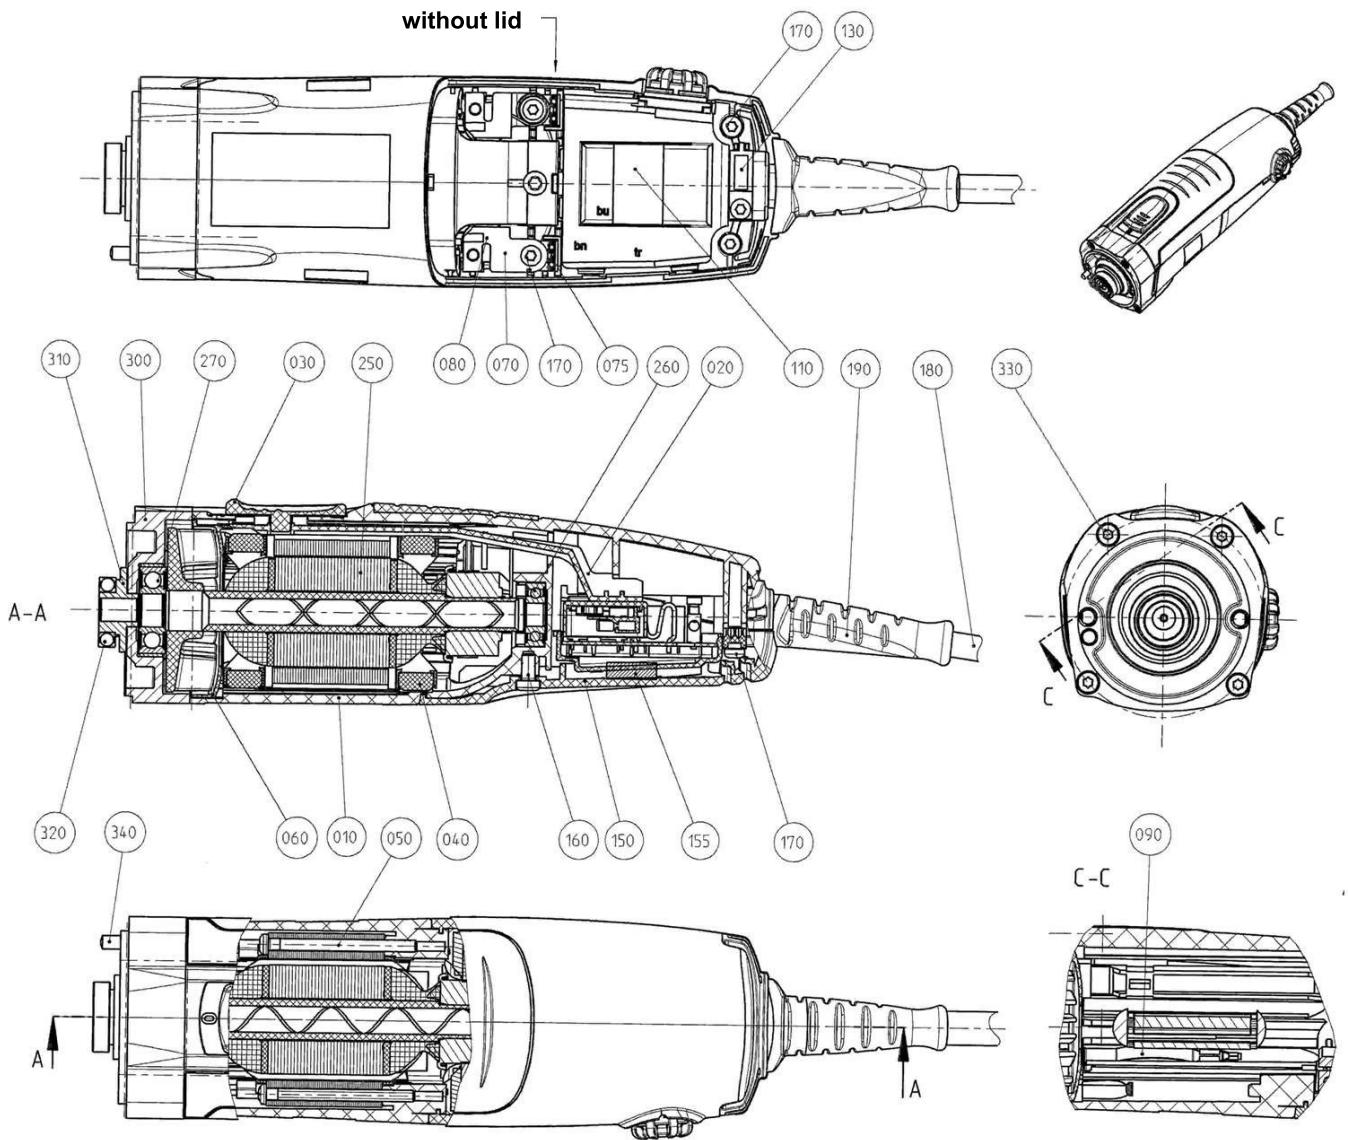

Fig 7:
- If the motor is overloaded, the device is automatically switched off. The fuse (see fig. 9 on page 25, item 110) is located on the electronic circuit board (see fig. 7 on page 25, item 110) and can be quickly and easily exchanged after unscrewing the housing.
The drawing items refer to fig. 7 to 9, next page.